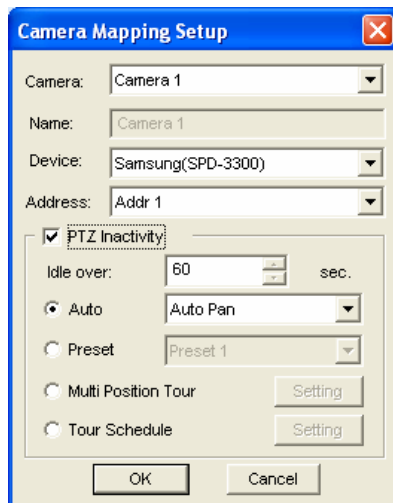

Figure 1-74 Camera Mapping Setup
1. In the Camera Mapping Setup dialog box (Figure 1-74), select **PTZ Inactivity**.
1. Select **Tour Schedule** on the Camera Mapping Setup dialog box (Figure 1-74), and click the **Setting** button. This dialog box appears.